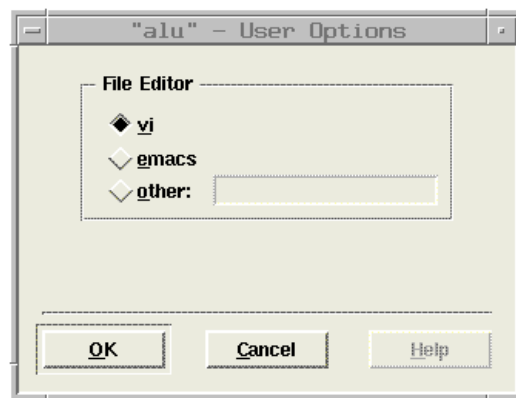

Figure 2-14. User Options Window
1. **Select the User command from the Options menu in the Design Executive Window.** The User Options Window is displayed, as shown in Figure 2-14.